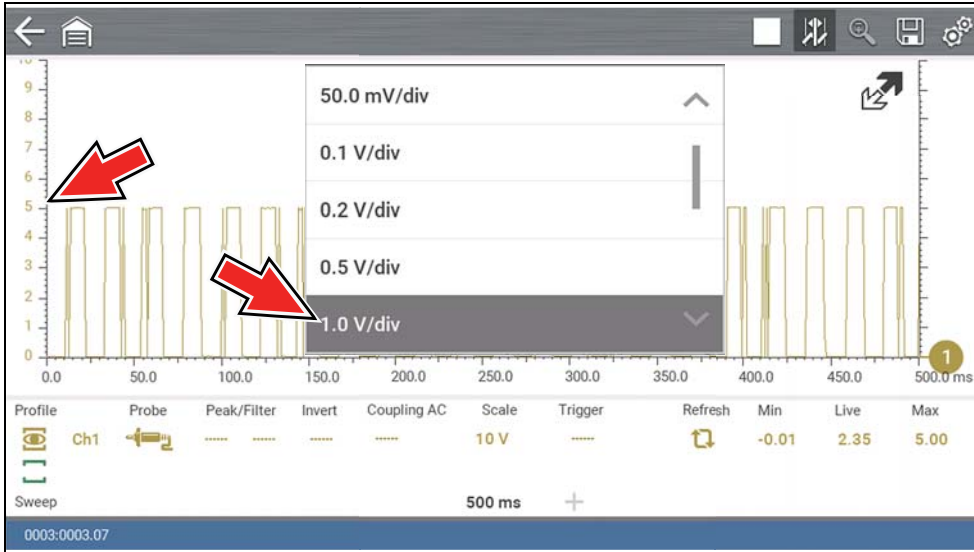

Figure 9-30
**Example (Figure 9-30):** Selecting 1.0V/div, displays a vertical scale divided by 10. The vertical scale is “always” divided by 10, therefore each division is incremented by 1.0V, thus a 10V scale.